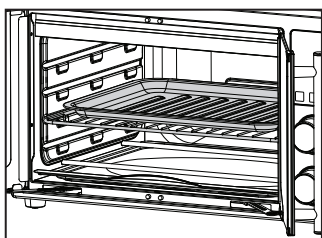

Figure 7: For Baking
- The oven has two pan positions to accommodate a wide variety of foods. The pan can be placed on top of the Wire/Broil rack or inserted into the guide rails below the rack. (See Figures 7 and 8)